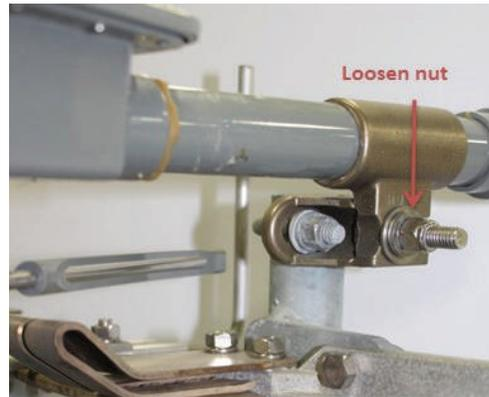

Figure 17. Loosen the nut on the Reliabreak
1. Loosen the nut as shown in Figure 17.